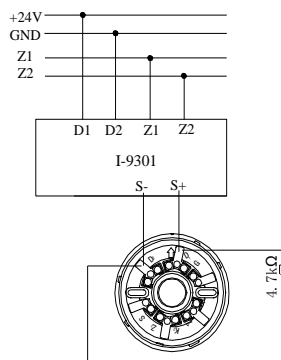

Fig. 3
- ✧ The module connects with C-9403 conventional sounder strobe. Its system connection is shown in Fig. 3. Working mode should be set to four-wire (1), volt output for S+, S- should connect with 4.7kΩ resistor in parallel (refer to Fig. 3).